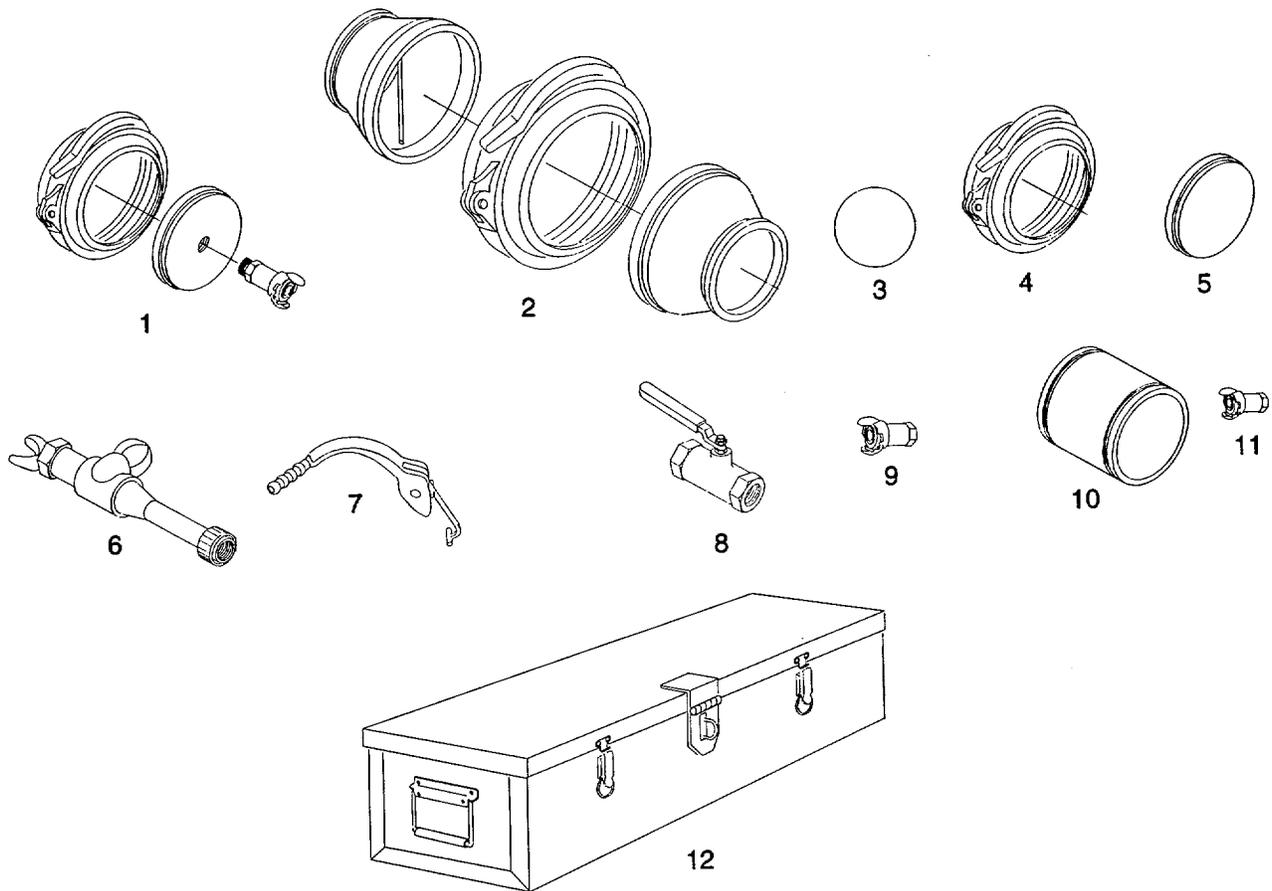

Figure 4-27. Displacement and Evacuation Kit 6 Inch Hoseline
1. Install a hose clamp per (figure 4-27)(hose clamps are supplied as part of hoseline installation and repair assembly) near the hose double groove adapter from which the hoseline system starts. This will be near the coupling which attaches the hoseline to the pump, switching manifold, or tanker-truck receipt manifold.